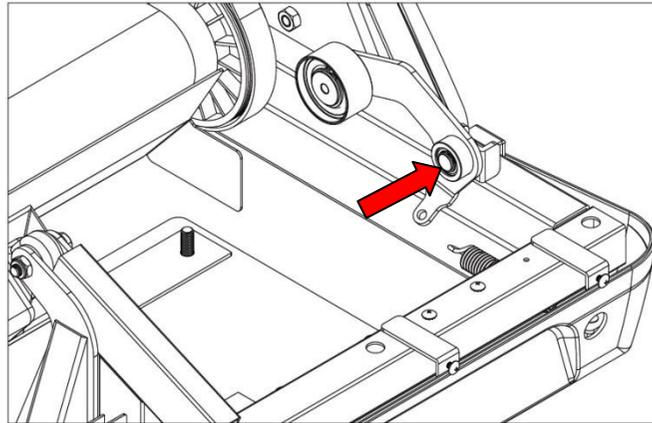

Figure 4.8.1
2) As shown in Figure 4.8.1, remove the idler wheel by removing the C-Ring with a tool.